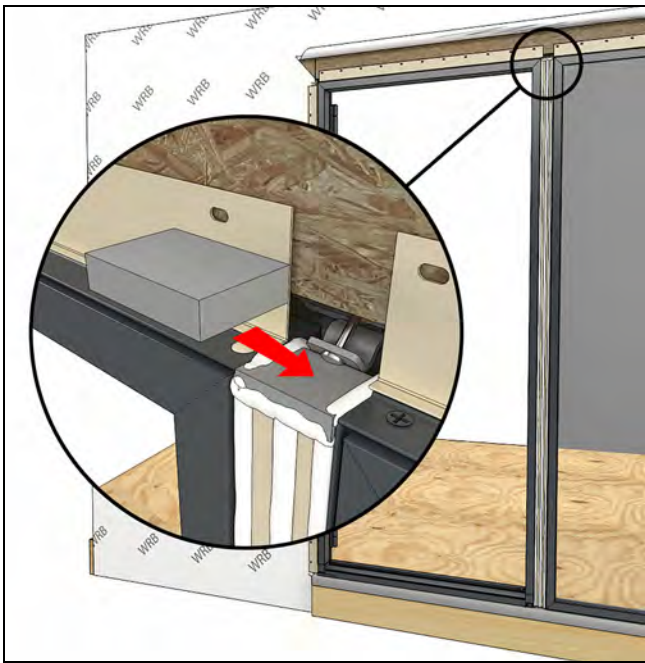
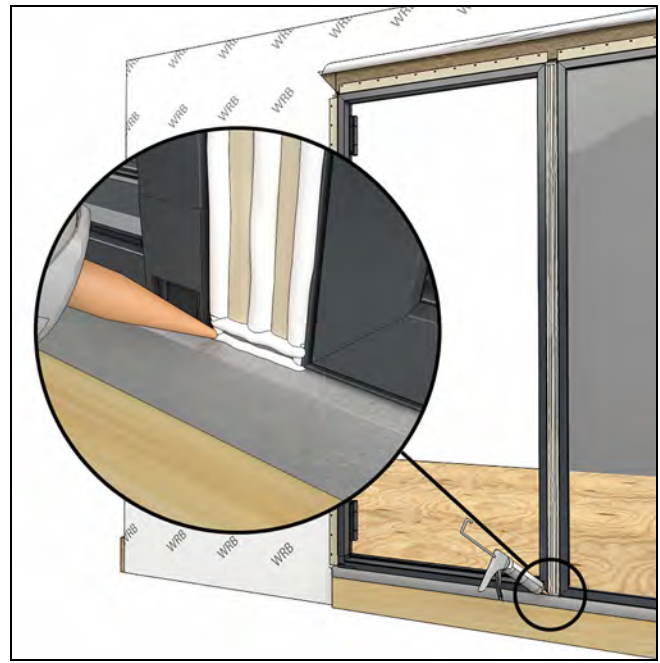
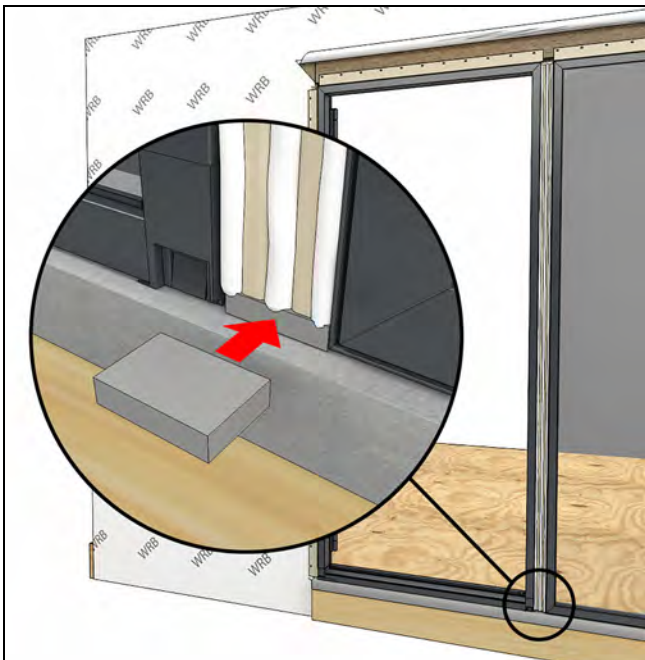

Figure 247
Figure 249
Figure 248
26. Seat foam blocks in the sealant at the head jamb and sill at the ends of the mull filler. See Figure 247, Figure 248, and Figure 249.